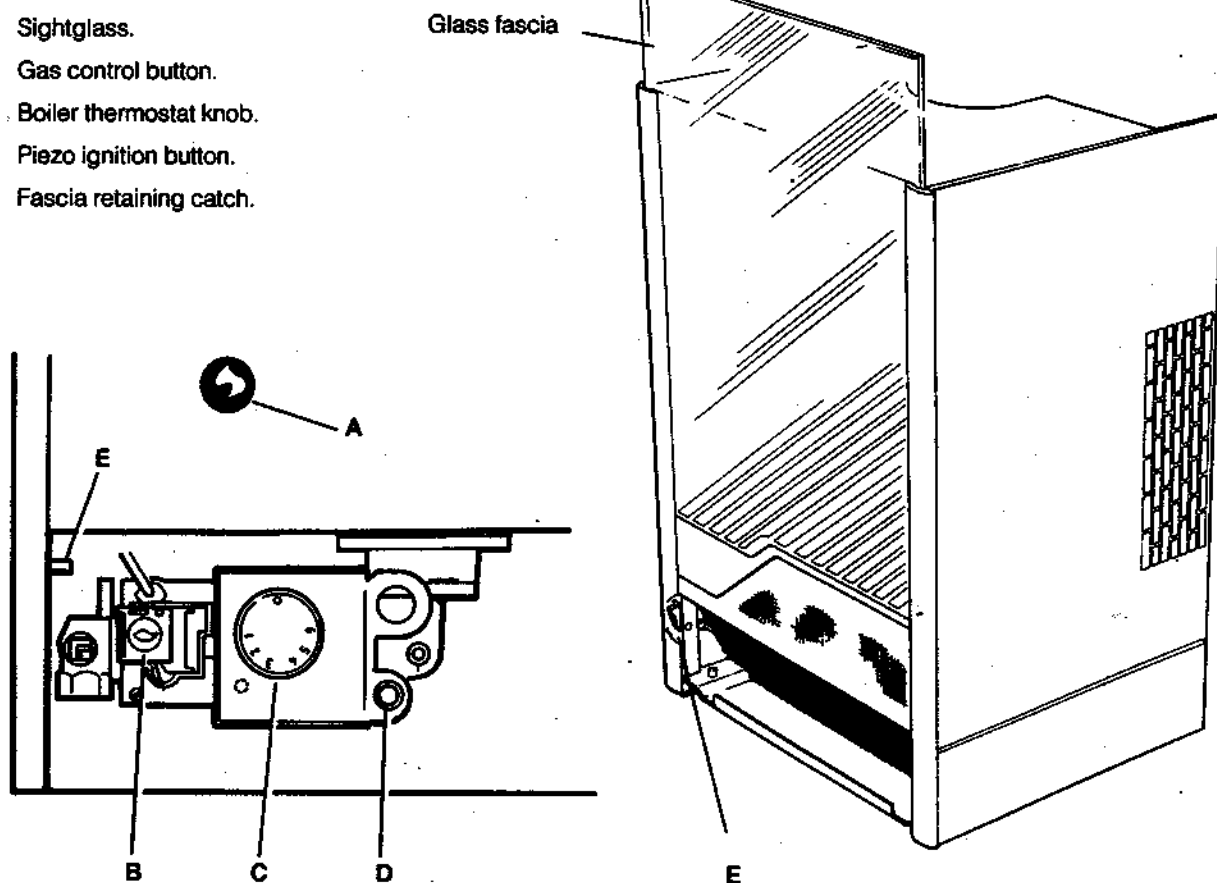

Fig. 2
**TO LIGHT THE BOILER, Refer to Fig. 2.**
2. Slide the glass fascia upwards until it locates in the retention catch (E).
3. Ensure that the boiler thermostat knob (C) is in the OFF position.
4. Slide the gas control button (B) to the right until resistance is felt and then release it. Wait for 3 minutes.
5. Push in and retain fully depressed the gas control button (B). Press and release ignition button (D) repeatedly until the pilot flame can be seen through the sightglass (A). When the pilot has lit, continue to press in the gas control button for a further 15 seconds.
6. Should the pilot go out at this or any other stage, slide the gas control button (B) to the right and release it. Wait for 3 minutes and then repeat instruction 5, but wait for longer than 15 seconds before releasing the gas control button.
8. Set the boiler thermostat knob (C) to position '6' and the will light.